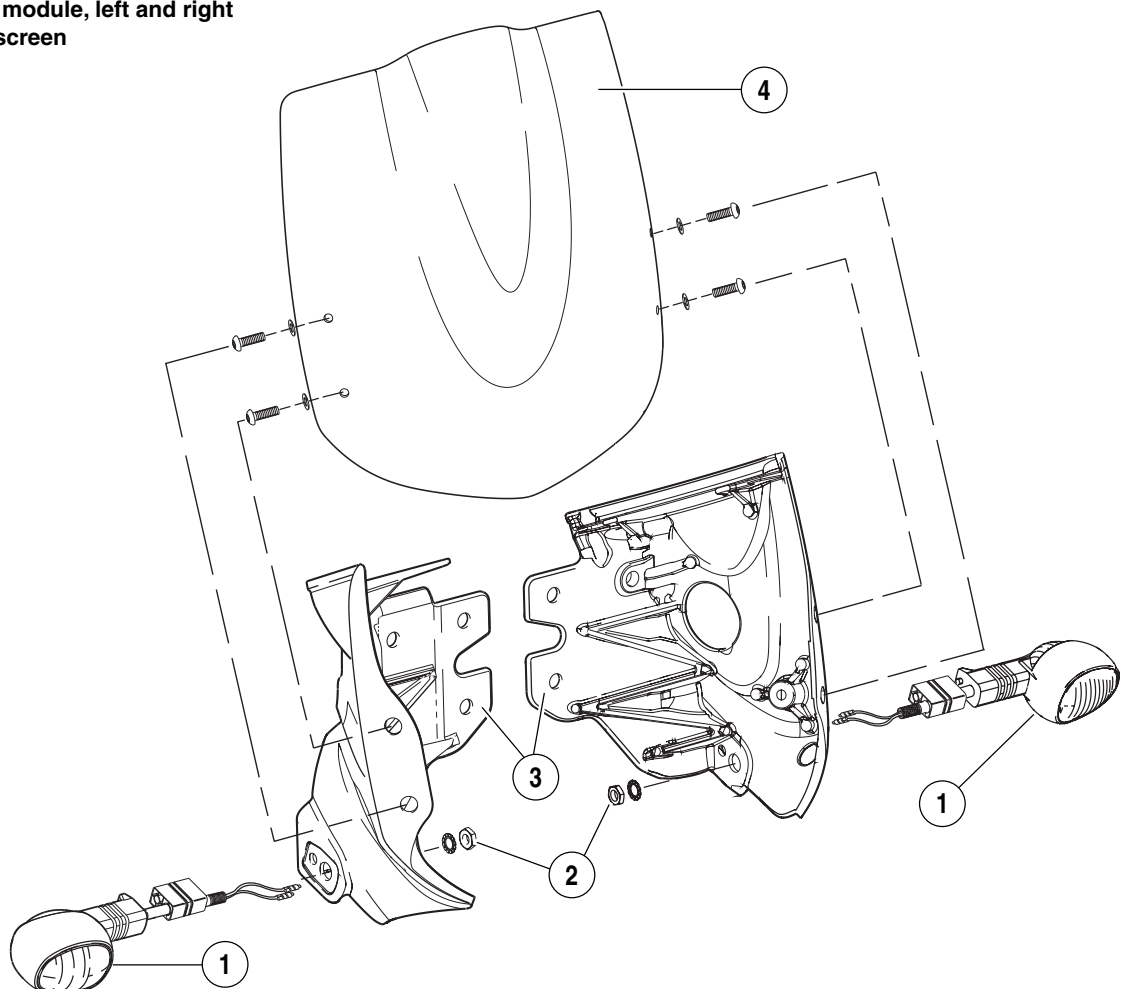

Figure 7-53. Front Turn Signals
3. See Figure 7-53. Remove jam nut and lockwasher (2) from inside of front module (3).
4. Pull bullet connectors and wiring through hole in front module (3) and remove turn signal (1).
- See Figure 7-53. Insert bullet connectors and wiring through hole in front module.